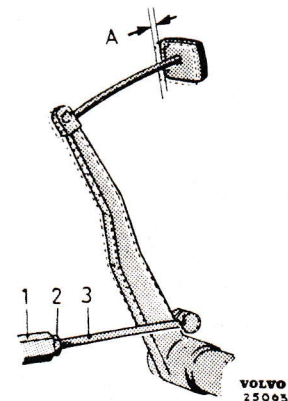

Fig. 31. Adjusting the free travel.
Adjusting the brake pedal free travel is done by means of adjusting the length of the link rod (3, Fig. 31). When doing this, slacken the locking nut (2) and turn the thrust rod (1) until the pedal has a free travel of 7—12 mm ($\frac{1}{4}$ — $\frac{1}{2}$ " (measurement (A)). Tighten the locking nut.